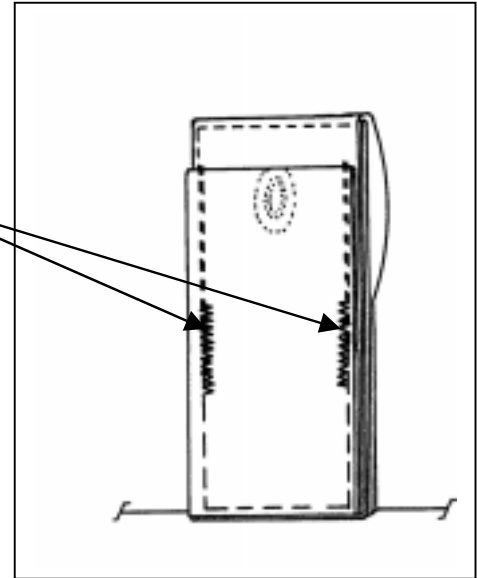

FIGURE 6
3. Some older rigs had a short cover behind the grommet [Fig 3]. Follow the instructions below ignoring the references to the continuous loop in the diagrams. Your end result will be the covering of the grommet and final bartacking of the short cover in place. [Fig 6].
6. Replace bartacks or zig-zag new locking stitches in same place as the ones taken out. [Fig 6].